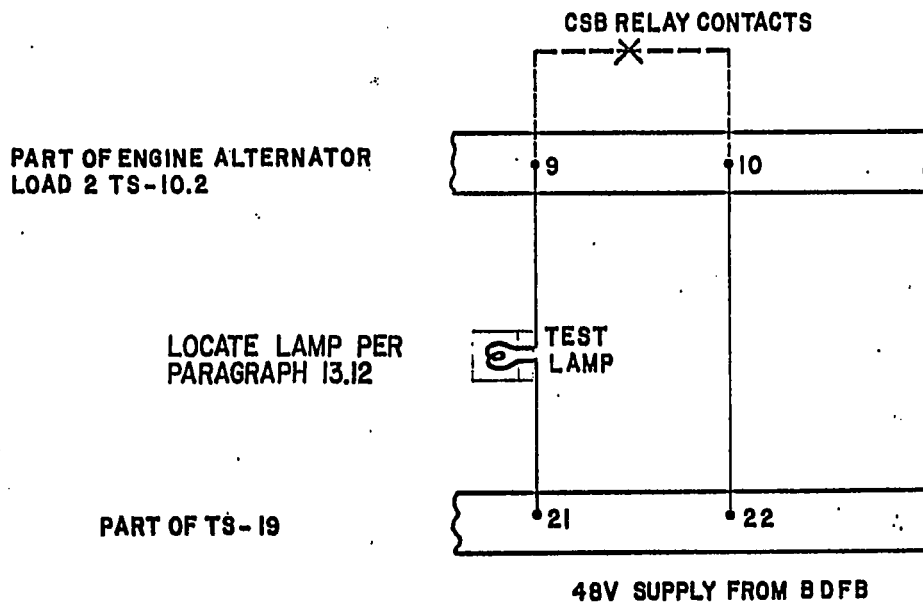

FIG. 3 TEST LAMP SET-UP TO INDICATE SET BREAKER CLOSURE. PAR. 13.12
- 13.12 Connect a 48V lamp (2Y or equivalent) as shown in Figure 3 so lamp can be placed adjacent to the Portable Phase Angle Meter.